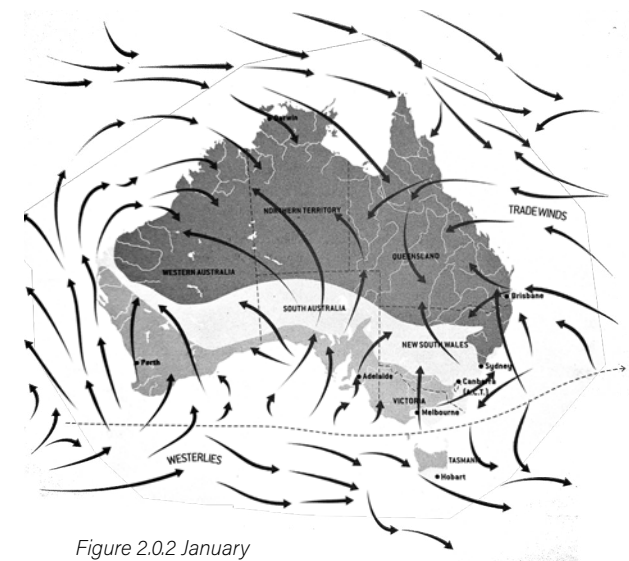

Figure 2.0.2 January
*During winter (Figure 2.0.2 May-Oct), this pattern reverses: cool westerly winds driven by cold frontal systems flow across the southern continent, bringing rain; while northern Australia is under the influence of dry south-easterly winds. In Winter, it is wet in the south and dry in the north.2*